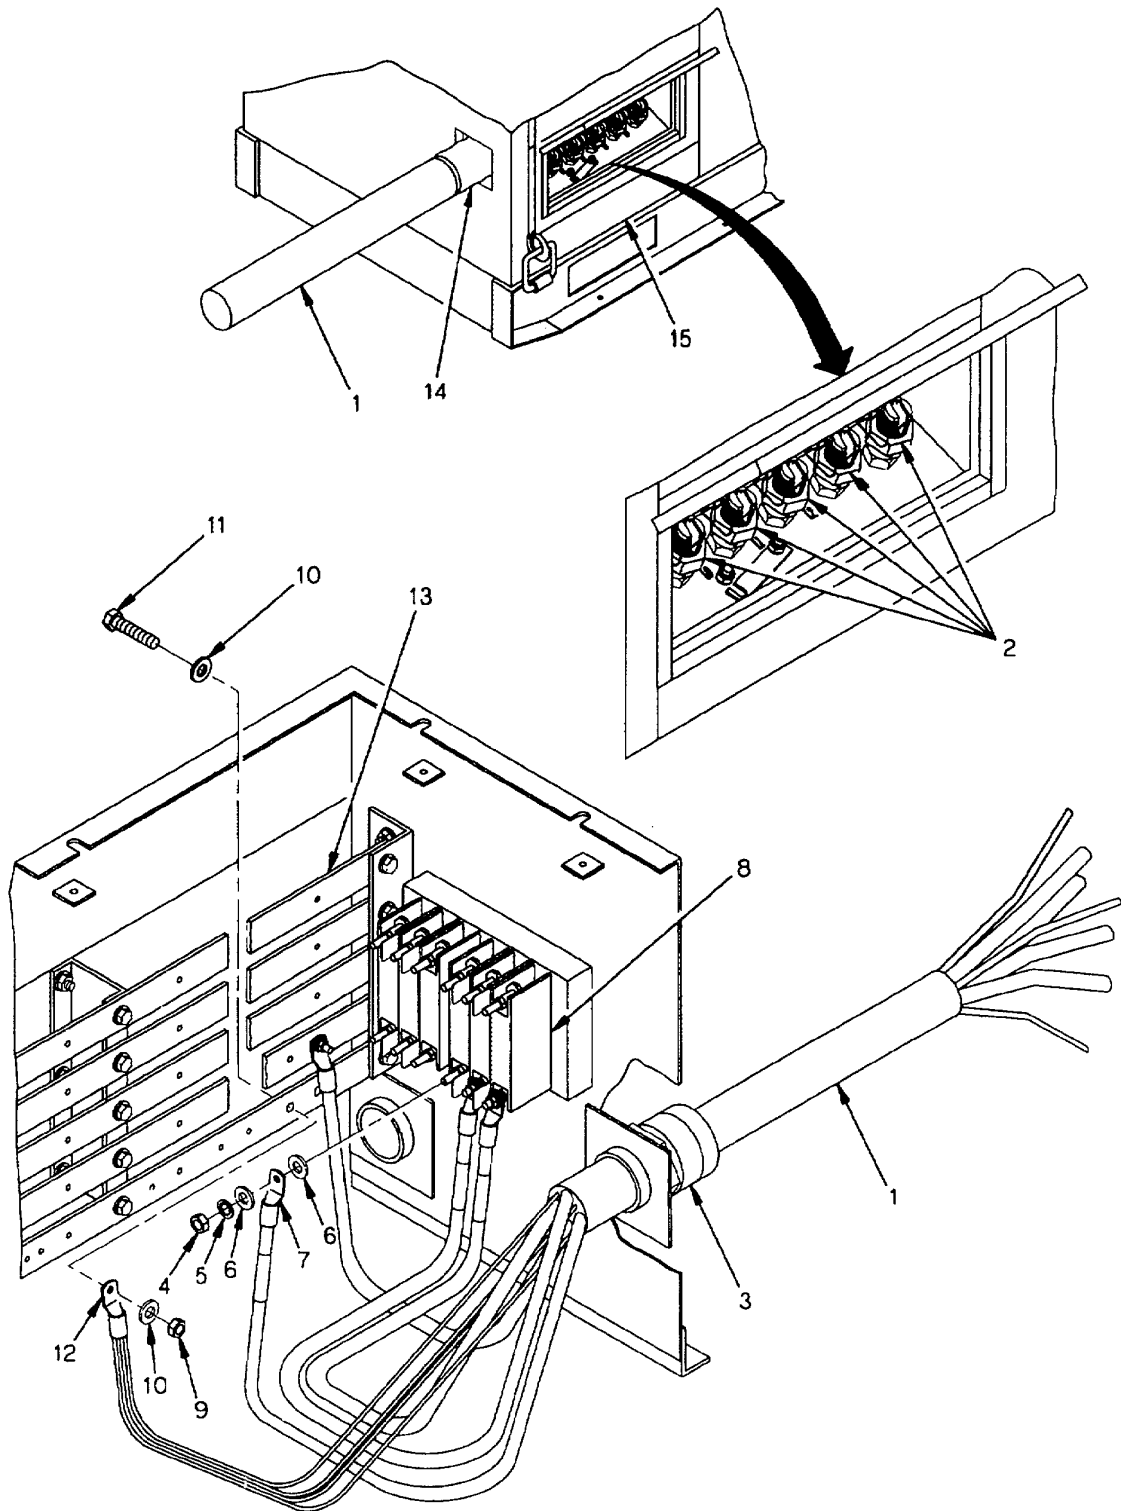

Figure 5-6. Cable Assembly Maintenance.
2. Disconnect cable assembly (1, figure 5-6) from generator terminals (2) and pull cable through power cable sock (14) on generator set (15).
3. Loosen stuffing tube (3).
4. Remove lock nuts (4), lock washers (5), and flat washers (6) securing cable terminal ends (7) to input switch (8).
5. Remove lock nuts (9), flat washers (10), and screws (1 1) securing terminal ends (12) to bus bar (13) and pull cable assembly through stuffing tube..